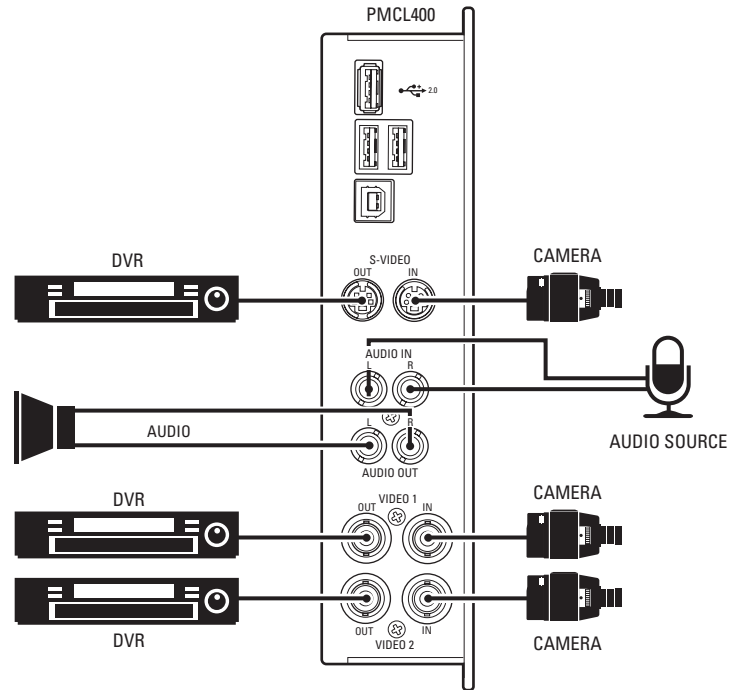
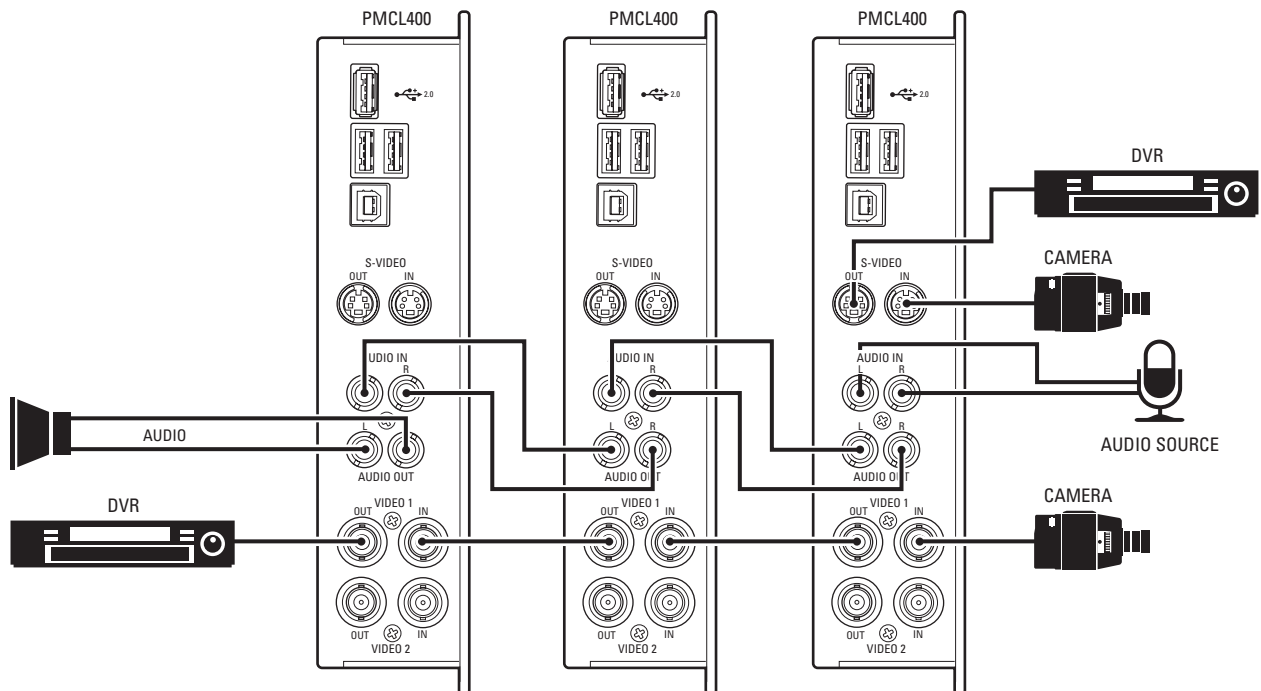

Figure 3. Looping Operation: One Monitor with External Video Equipment
Figure 4. Looping Operation: Maximum of Three Monitors with External Video Equipment
- c. *Looping operation only.* Connect a video cable to the BNC video connector labeled VIDEO 1 OUT for composite video or connect the video cable to the connector labeled S-VIDEO OUT for S-Video. If the installation requires a second composite video output, connect a video cable to the BNC video output labeled VIDEO 2 OUT (refer to Figure 3 and Figure 4.)
4. Connect audio, as desired. The monitor has built-in speakers but can also loop out to an external speaker. Connect the audio input cables to the connections labeled AUDIO IN on the back panel of the monitor. Connect one end of the audio output cables to the connections labeled AUDIO OUT on the back panel of the monitor and the other end to a speaker (refer to Figure 3 and Figure 4 for looping connections.)